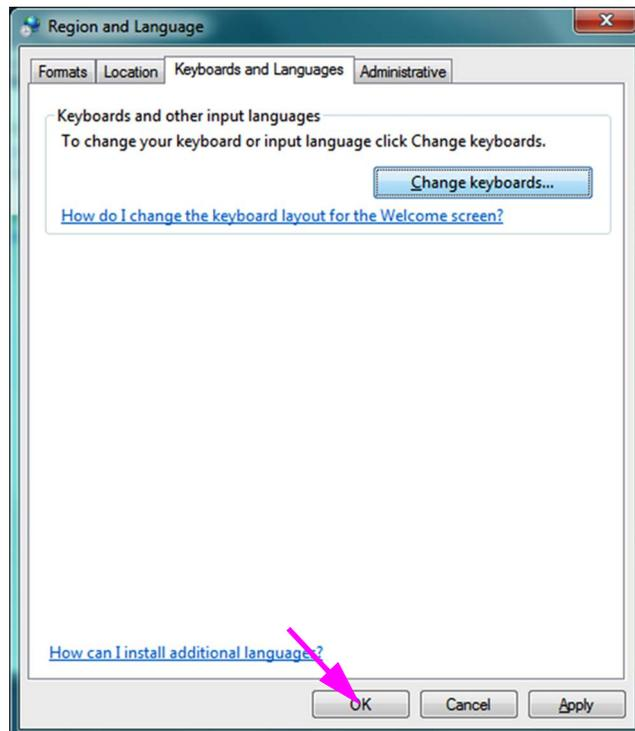

Figure C-12. Region and Language Screen—Keyboards and Languages Tab
8. Return to the Keyboards and Languages tab (see Figure C-12) and click the **OK** button to complete the keyboard language change.